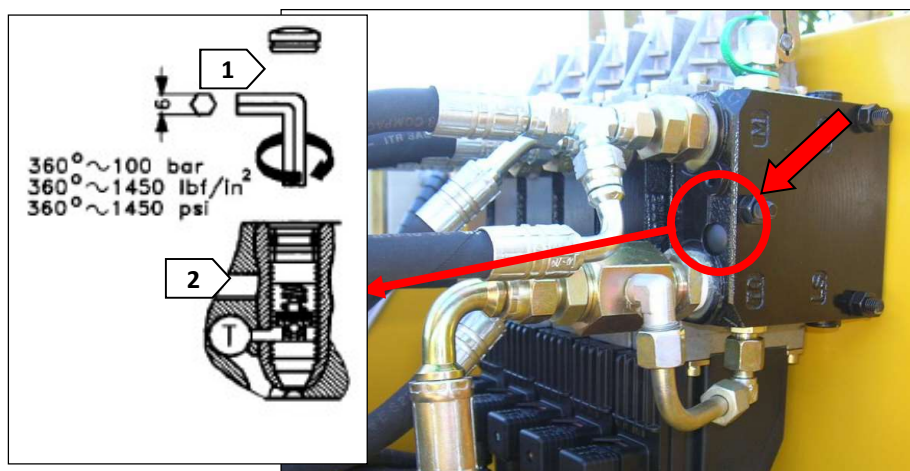

Figure 25
- Remove the plastic plug (Rep.1 Figure 25).
- Adjust the service pressure at **160 bars** (2320 psi). with use of a hexagonal key of 6 mm (Rep.2 Figure 25).
- Reinstall the plastic plug (Rep.1 Figure 25).